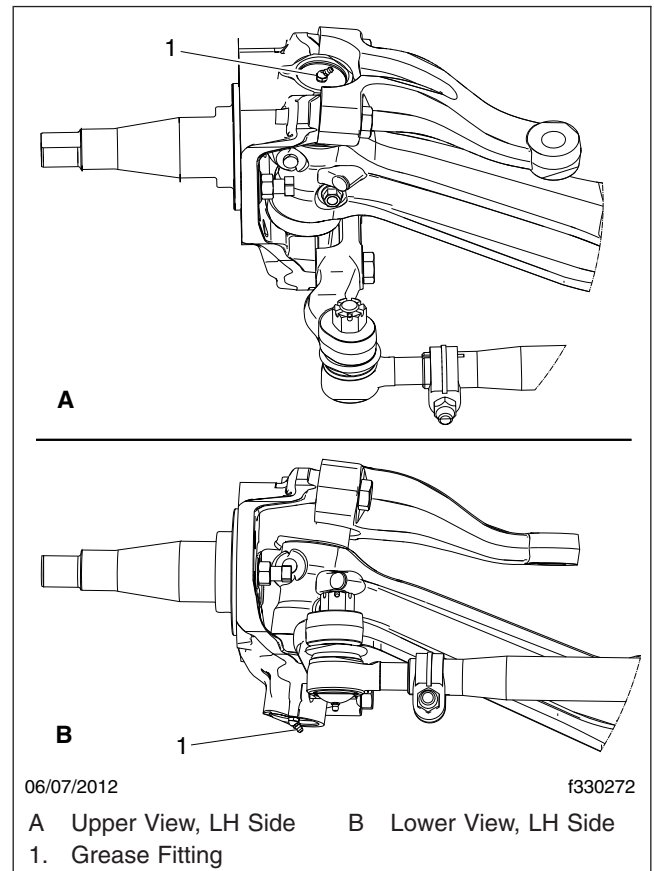
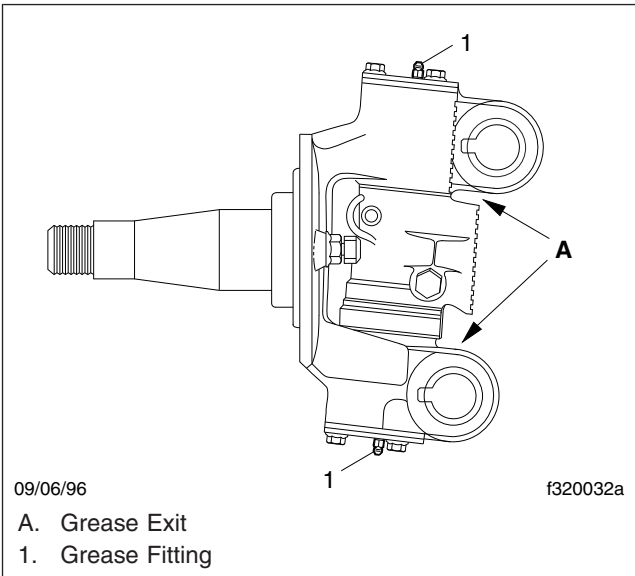

Fig. 1, Grease Fittings, Detroit Axles
Fig. 2, Knuckle Pin Lubrication
3. Apply multipurpose chassis grease, NLGI Grade 1 (6% 12-hydroxy lithium stearate grease) or NLGI Grade 2 (8% 12-hydroxy lithium stearate grease), until new grease is seen at the junctions of the axle beam and knuckles. For locations of grease fittings, see Fig. 1; for grease exit points, see Fig. 2.
seen at the bushing seal opposite the grease fitting. See Fig. 2.